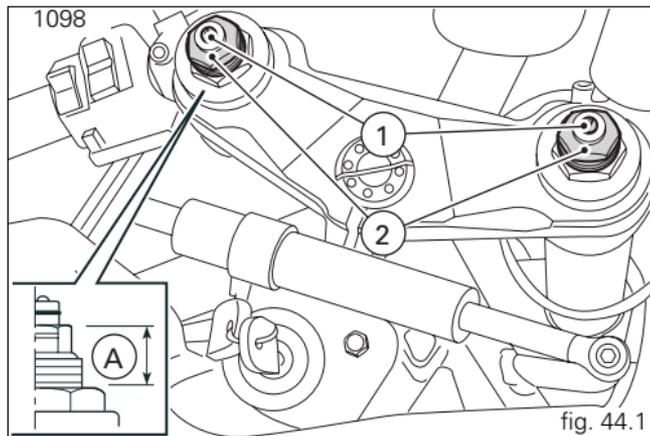

fig. 44.1
- 1) to adjust rebound damping (fig. 44.1 and fig. 44.2);
- 2) to adjust inner spring preload (fig. 44.1 and fig. 44.2);
Spring preload (1098)(A, fig. 44.1): 18 mm;
turn the adjuster with the hex end (2, fig. 44.1 and fig. 44.2)